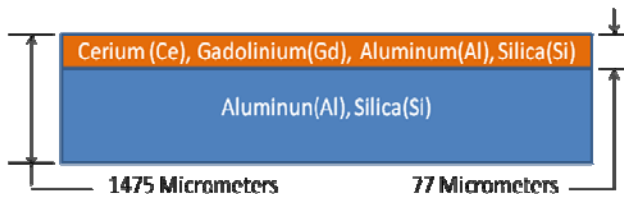

Fig. 1. Shows the approximate thickness of the sheet. (Not to scale)
1. The sheet should have an overall thickness of about 1475 micrometers with a coat of about 77 micrometer at one side of the sheet shown in figure 1. It should be made out of aluminum and a little bit of silica. Boyd Bushman said to David Sereda that aluminum was the key to antigravity [8]. The coat in one side of the sheet should include Ce, Gd. Since these elements may not be able to form a stable atomic structure, Al and Si may be included, too [1].
2. The fluid-behaving ZPE has to be directed towards the Cerium atoms. The atomic structure may accomplish this task by itself as shown in Fig. 1. If the sheet cannot be welded because it cools down faster than it can be heated up, the atomic arrangement is good. However, the sheet can also be rotated at a resonating frequency.